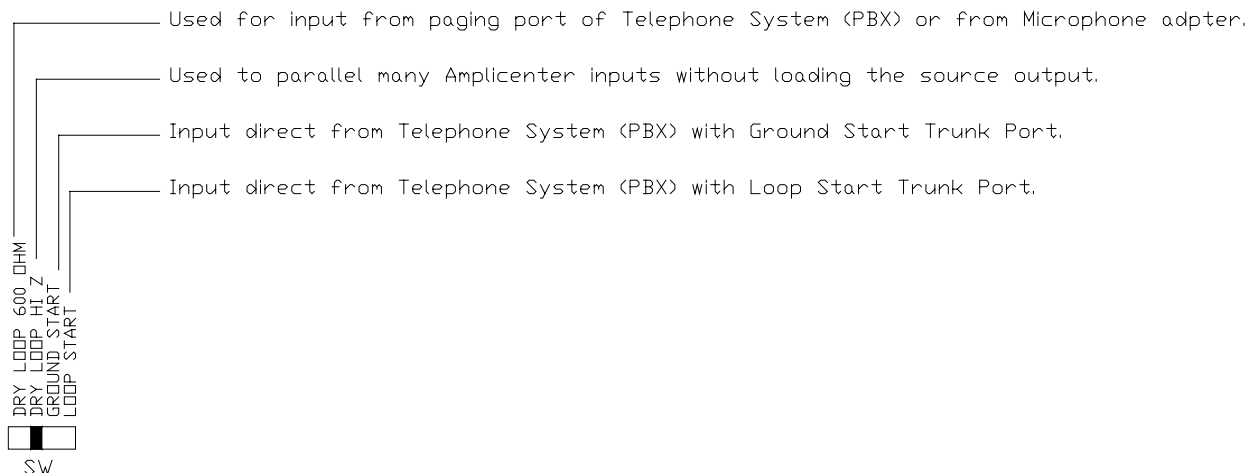

Figure 7. Host Telephone System Connection
4. Set the AmpliCenter Telephone Mode Selection Switch (page 5 - Figure 7) to match the page output type of your telephone system.